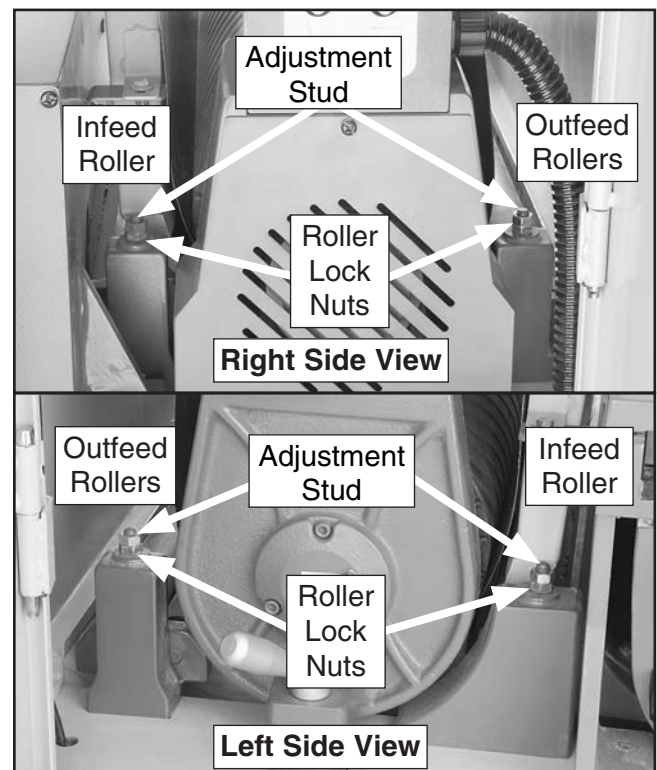

Figure 64. Infeed pressure roller adjustment locations.
8. Loosen the infeed pressure roller lock nuts (**Figure 64**) on the infeed pressure roller. Turn the adjustment studs (**Figure 64**) to lower the infeed pressure roller until it just touches the boards.